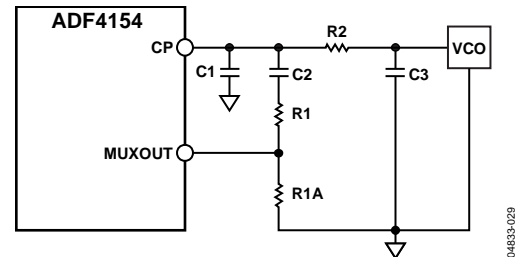
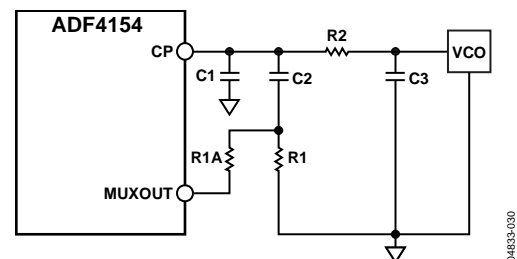

Figure 19. Fast-Lock Loop Filter Topology—Topology 1
Figure 20. Fast-Lock Loop Filter Topology—Topology 2
- Divide the damping resistor (R1) into two values (R1 and R1A) that have a ratio of 1:3 (see Figure 19).
- Connect an extra resistor (R1A) directly from MUXOUT, as shown in Figure 19. The extra resistor must be chosen such that the parallel combination of an extra resistor and the damping resistor (R1) is reduced to $\frac{1}{4}$ of the original value of R1 (see Figure 20).